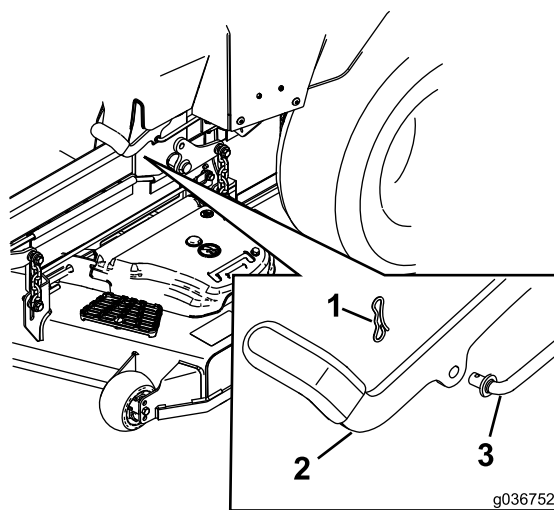

Figure 58
6. If an adjustment is necessary, disengage the parking brake. Remove the cotter pin from the brake linkage shaft (Figure 58).